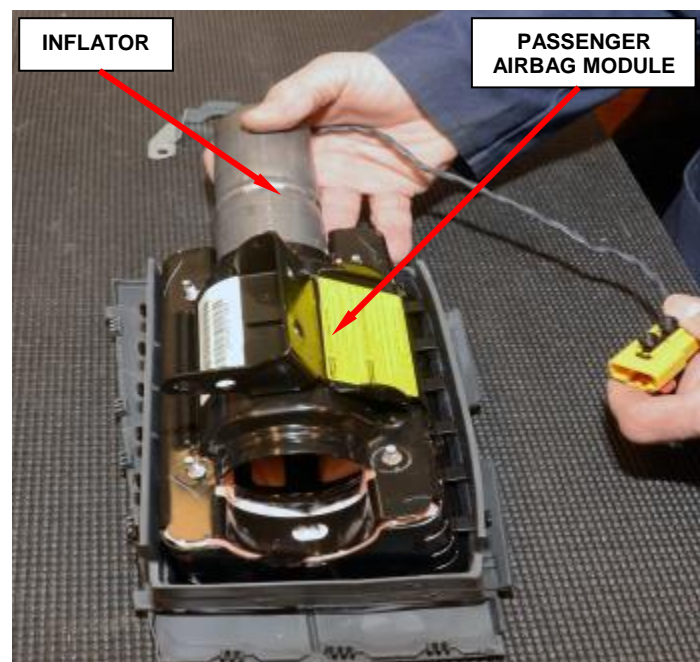

Figure 98 – Inflator Removal
f. Slide the inflator out of the passenger airbag module (Figure 98).